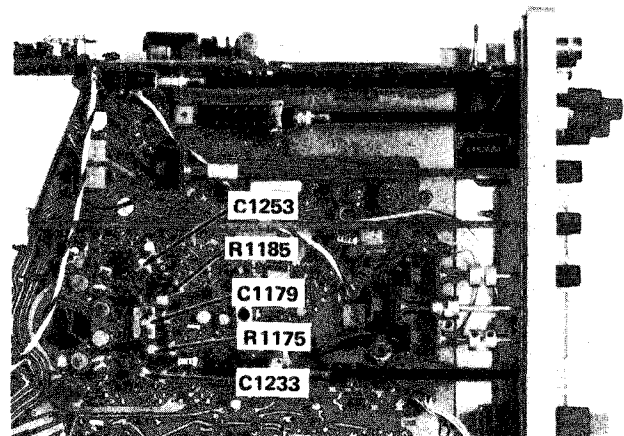
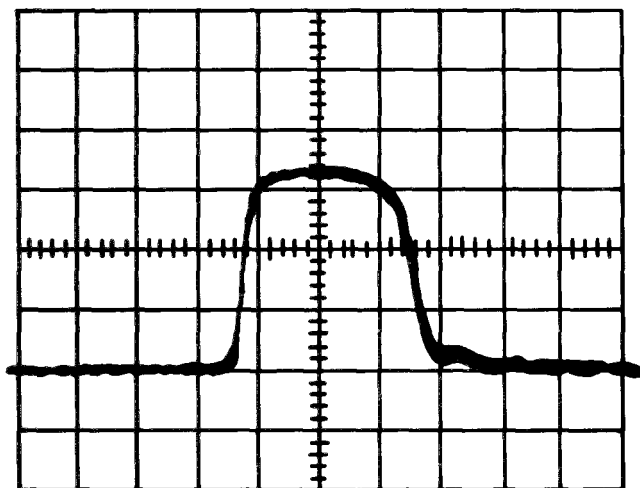

Fig. 5-27. Location of high-speed timing adjustments (except R1075).
Fig. 5-30. Typical CRT display with high-speed timing adjustments preset.
f. ADJUST-C1233 and C1253 (see Fig. 5-27), with a low-capacitance screwdriver, in approximately equal amounts to achieve 1 cycle/division.
j. ADJUST-C1179 (see Fig. 5-27) with a low-capacitance screwdriver, for 1 cycle/division.
h. ADJUST-(See Fig. 5-27), R1175 to midrange, R1185 to midrange, C1233 and C1253 half-closed, and C1179 one turn from fully clockwise.
i. ADJUST-R1175 and R1185 (see Fig. 5-27) for a symmetrical waveform similar to that in Fig. 5-30.
k. ADJUST-C1233 and C1253 (see Fig. 5-27) equally for 1 time marker/division.
n. ADJUST-C1179 (see Fig. 5-27) for 1 time marker/division.